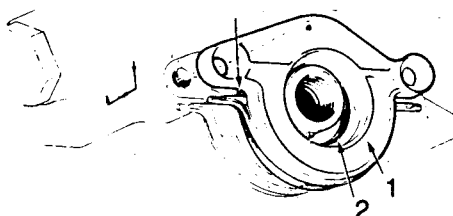

Fig B4.57
- (6) Refer to Fig B4.57. Locate the housing (1) in position on the crankcase and align the attaching screw holes.
- (7) Keeping the housing assembly in the same horizontal alignment, position the whole assembly vertically away from the engine so that the crankshaft oil seal (2) lips are resting on the crankshaft.